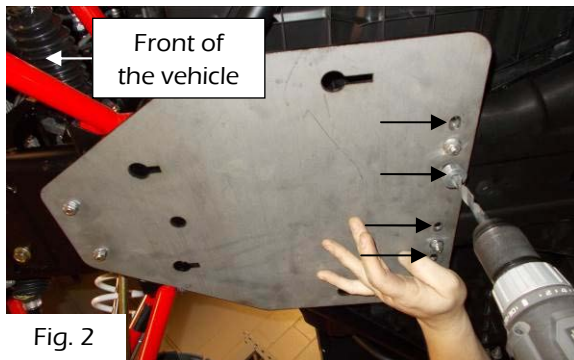

Fig. 2
- 2) Using the plate as a reference, drill with the tool provided at the locations identified in Figure 2.